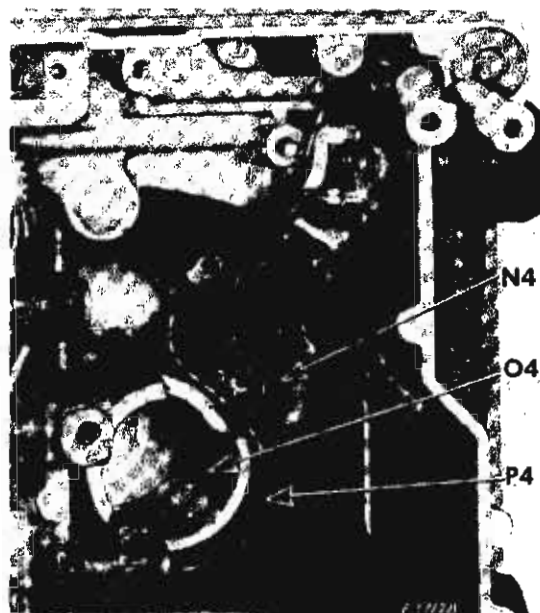

Fig. 301. Location of Wires around Motor
1. Make sure that wire **P4**, Fig. 301 is correctly located around and under cylindrical tube **O4**; then up behind three-pin terminal **N4**, as shown in Fig. 301.
NOTE: Make certain that light leads are above the three-pin terminal and around the cylindrical tube, as shown in Fig. 301, page 145 and instructed in Step #1 under "REPLACEMENT" on page 145.